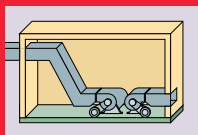

Fig.2
- Where there are a number of machines, treat all the interior surfaces of the room or enclosure with noise absorbing panels, as in **figure 2**.